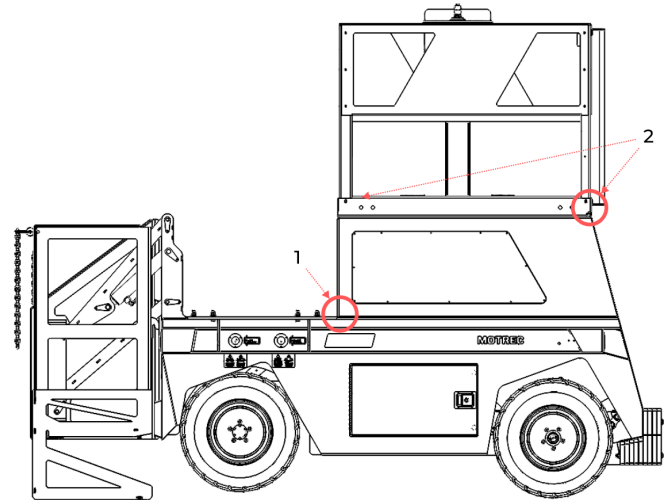

Figure 35. Side Panels And Guardrails.
- Side panels corners (1) (both sides) and guardrails (2). There is a possibility of cracks occurring in the side panels corners as they undergo significant stress (see Figure 35).